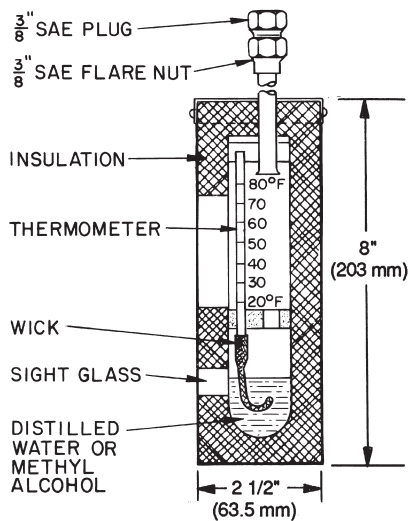

Fig. 10 — Typical Wet-Bulb Type Vacuum Indicator
- absolute pressure manometer or wet-bulb vacuum indicator (see Fig. 10)